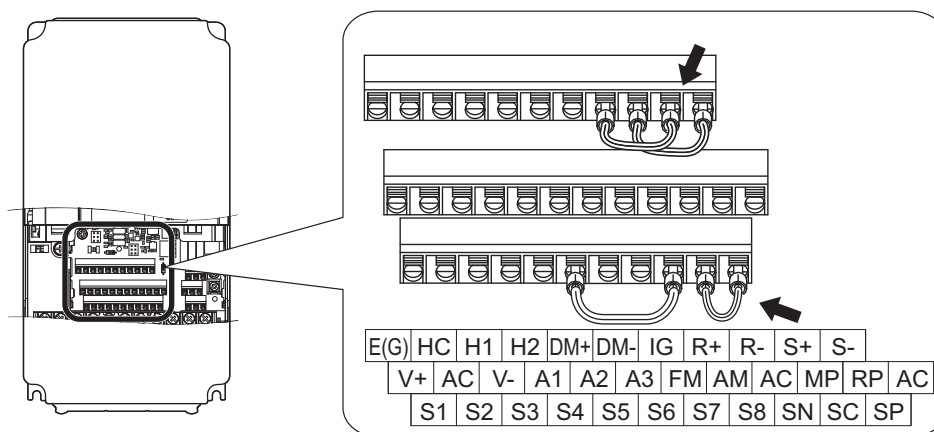

Figure C.8 Terminal Connections for Communication Self-Diagnostics
4. With the power off, wire the drive as shown in **Figure C.8**, connecting terminals R+ and S+, R- and S-, and S6 and SN.